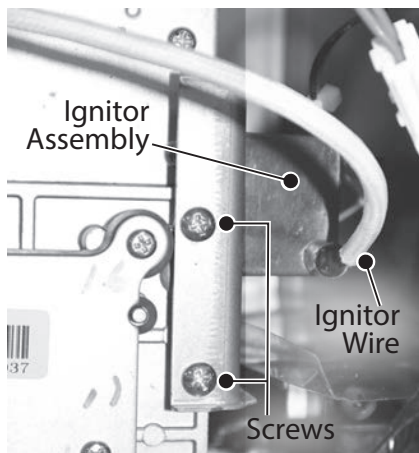

Figure 84 - Ignitor assembly location
- 8 Locate the ignitor assembly on the right side of the water heater. See Figure 84.
- 9 Disconnect the ignitor wire from the ignitor assembly. See Figure 84.
- 10 Remove the two screws securing the ignitor assembly and bracket to the gas manifold. Place screws aside in a safe place for reinstallation. See Figure 84.